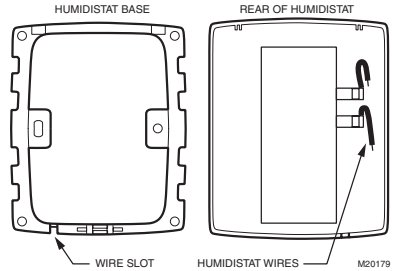

Fig. 14. Humidistat base and rear view.
7. Connect the low-voltage wires to the leads and replace the H8908 case. See Fig. 14.